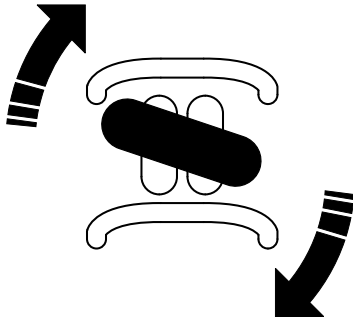

Figure 10
- To turn right, rotate the traction control clockwise (Figure 10).